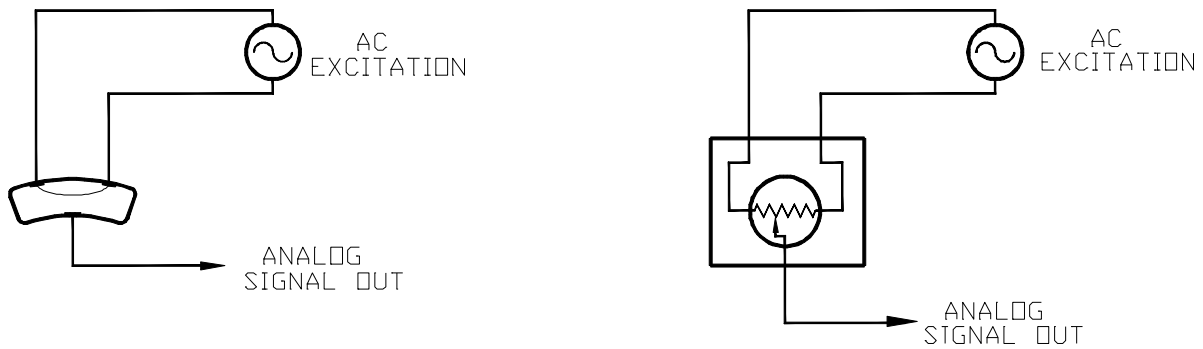
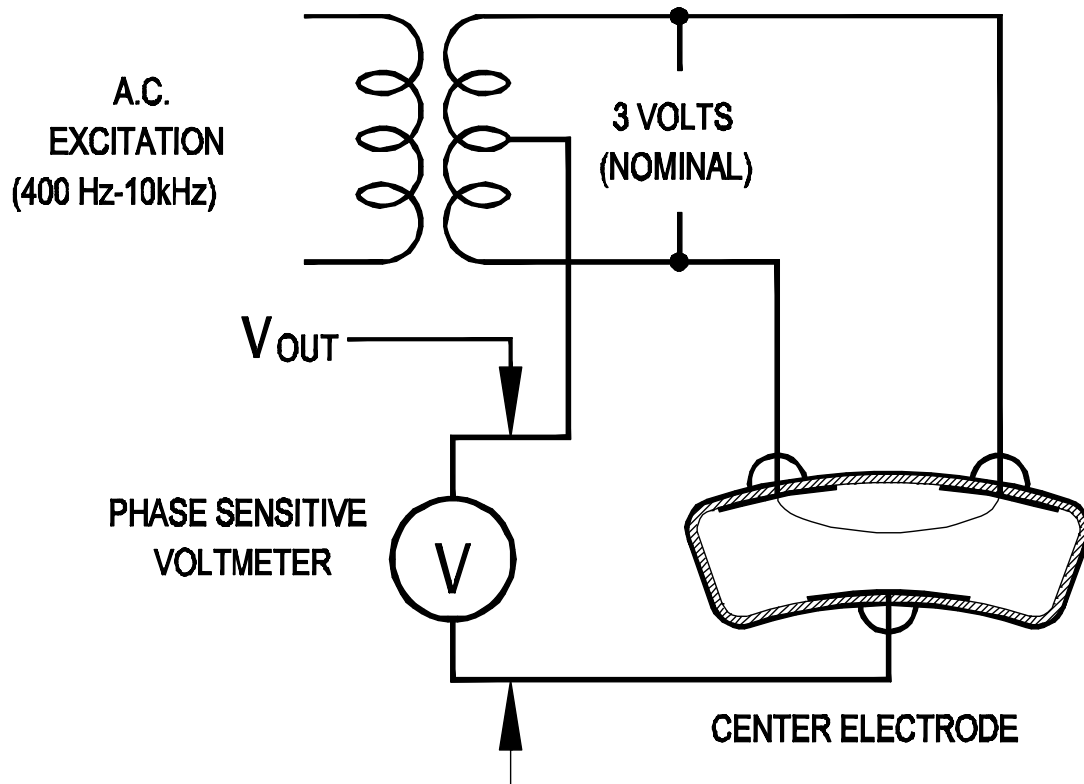

FIGURE 5
FIGURE 6
Figure 5 shows a basic electrical circuit for operating one electrolytic tilt transducer. Figure 6 shows a basic circuit for operating two transducers simultaneously, as in the case of a biaxial sensor. Please note that these basic circuits may not achieve the performance specifications listed in Section 4.0 of this manual. Nor are they likely to provide the ease of use available from the signal conditioning units listed above.
In this nomenclature the (+) and (-) wires correspond to the two top, or excitation, electrodes of the tilt transducer, as shown in Figures 5, 6, 7, and 8 of this manual. The (+) electrode is on the +X or +Y side of the transducer. The (E) wire corresponds to the center, or pick-up, electrode of the transducer.